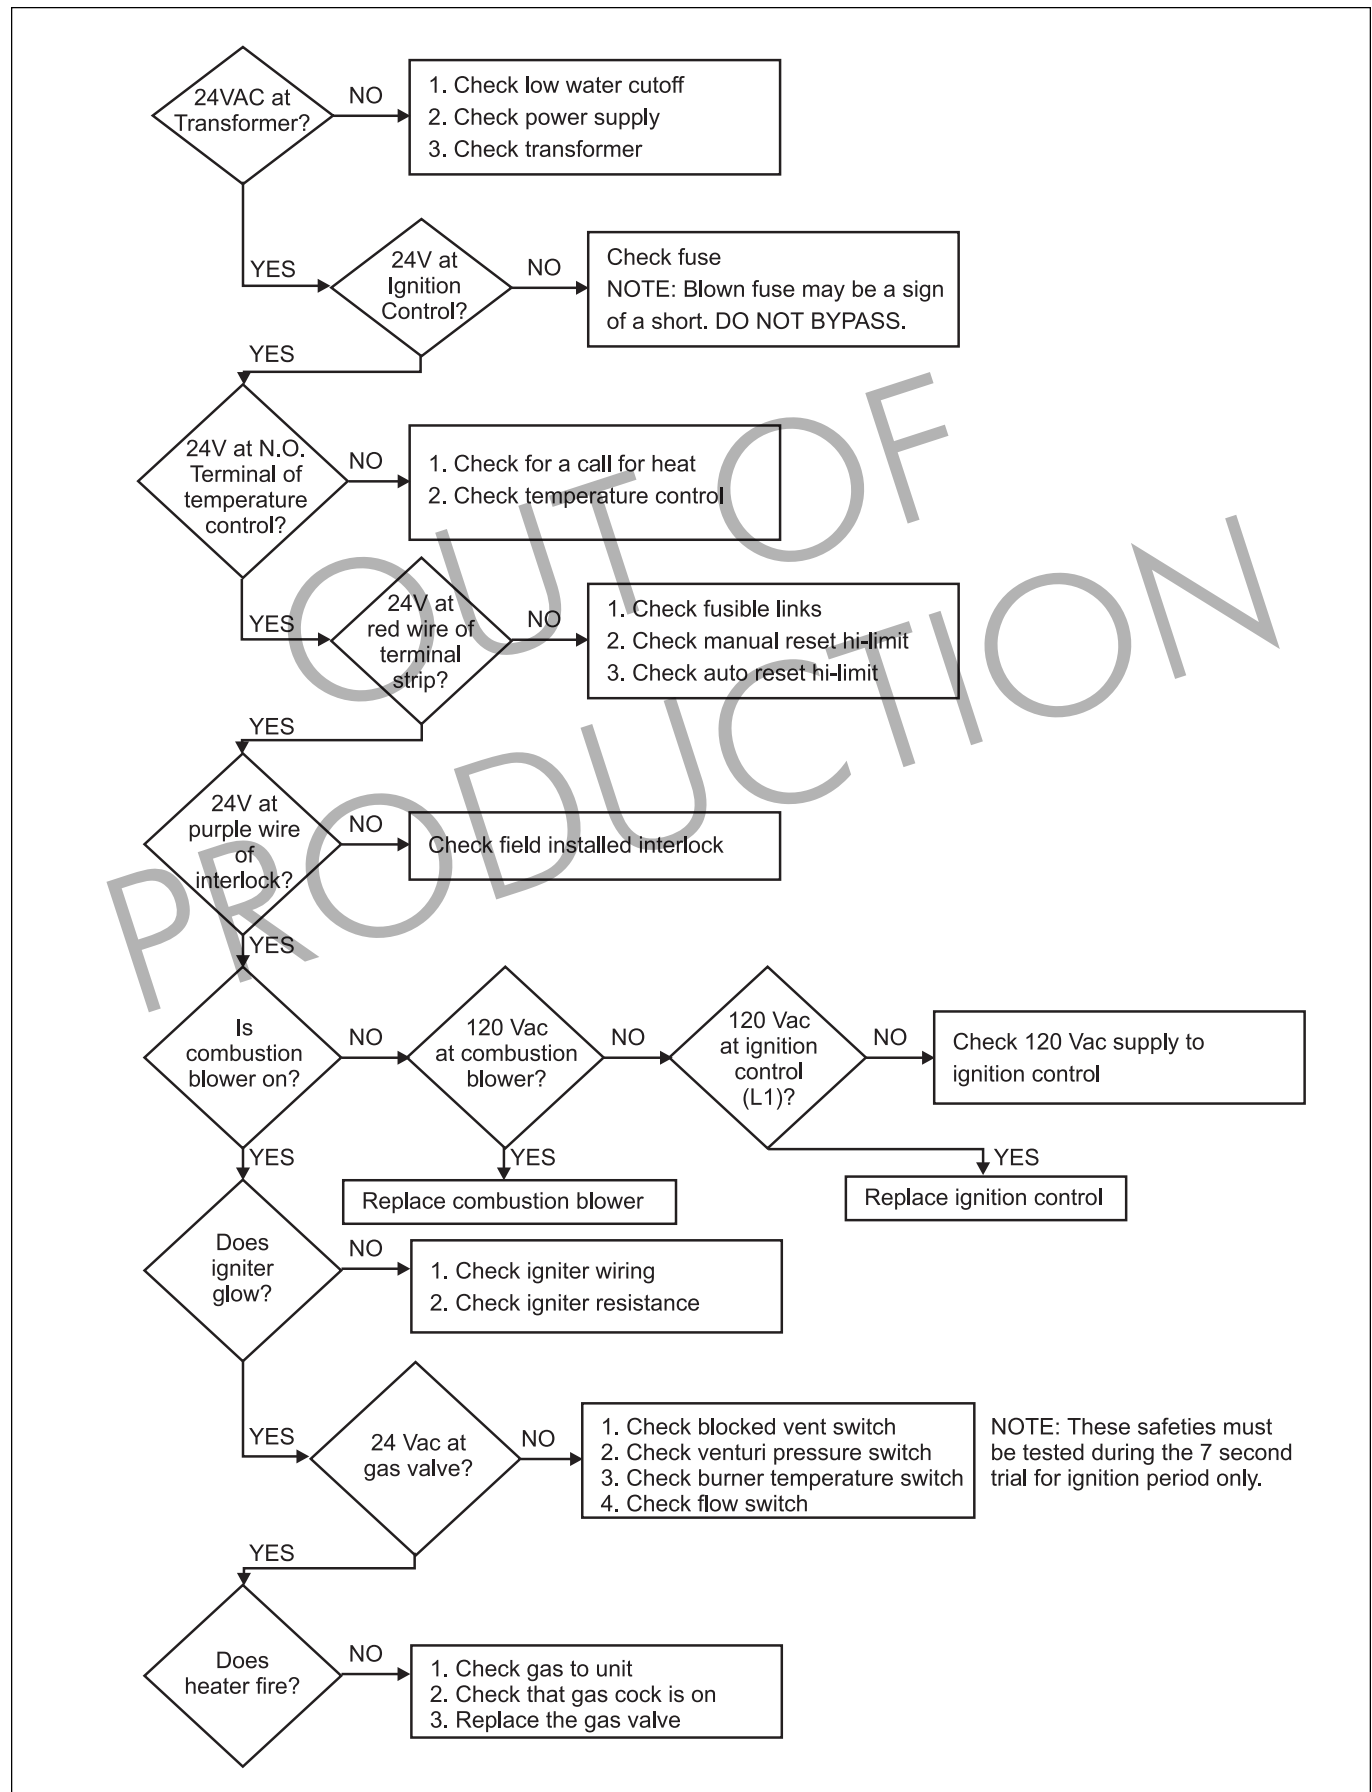

Figure 19. Troubleshooting Chart.
Some electrical components are wired in parallel, so it is necessary to troubleshoot in the order that they appear on the wiring diagram or the troubleshooting flow chart (see Figure 19).
4. Use the troubleshooting flow chart (Figure 19) to determine what components and wiring should be tested first.